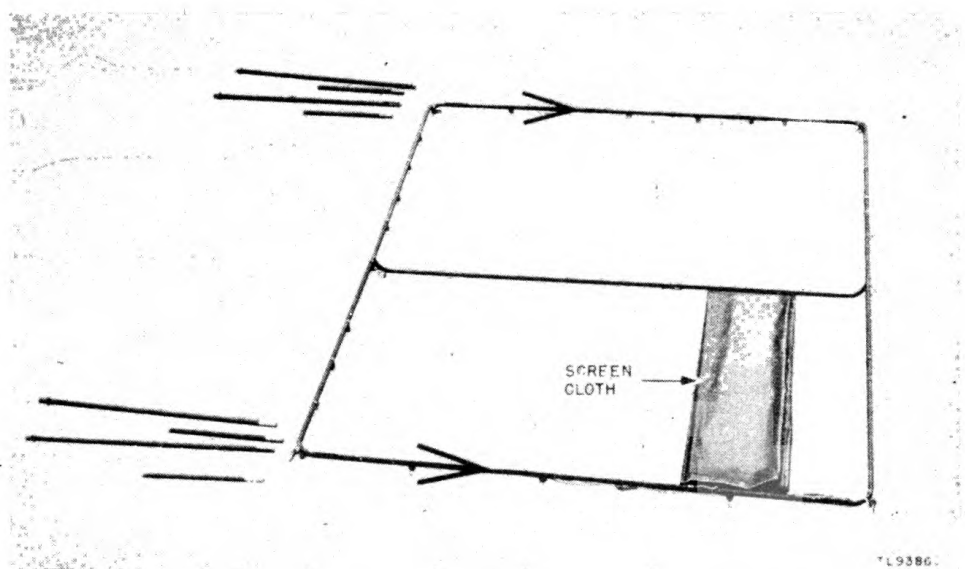

Figure 6. Screen PH-555/GF—frame assemblies joined and guy ropes attached.
- c. Join the five sections together to form a frame. (See fig. 6.)